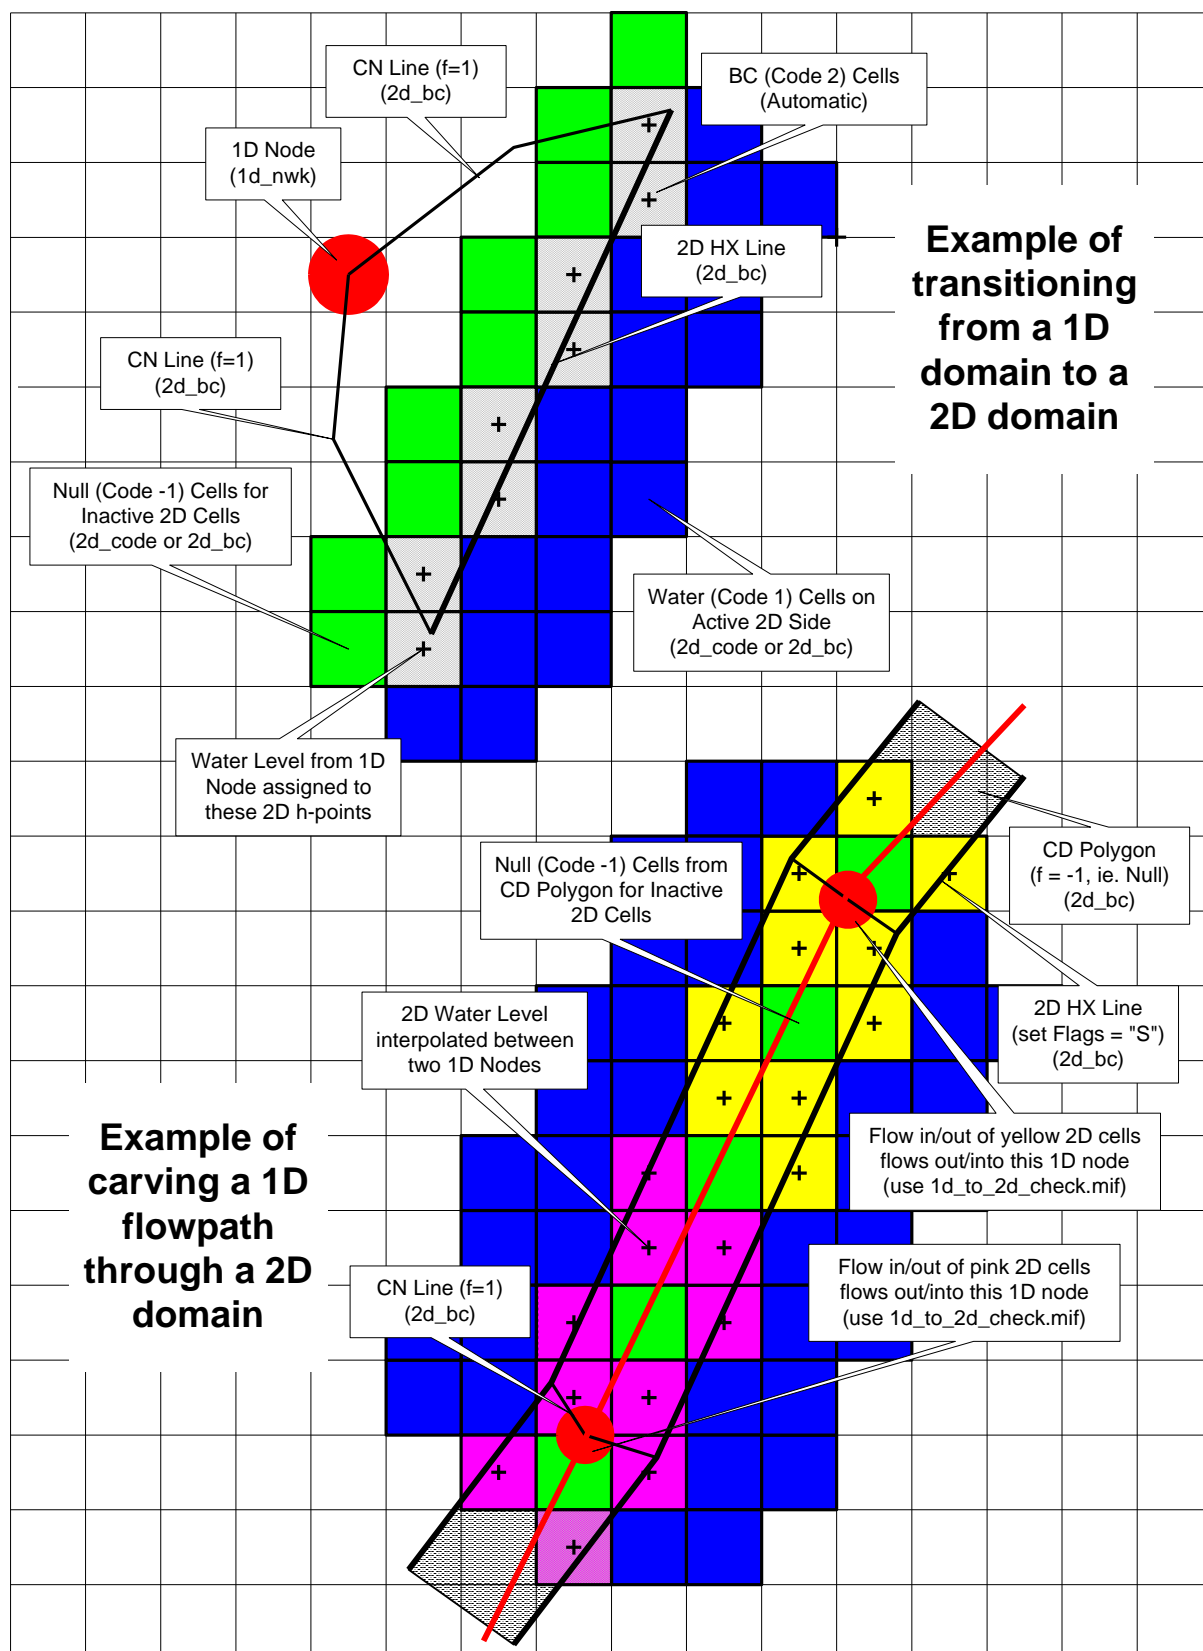

Figure 8-8 Examples of 2D HX Links to 1D Nodes
- 2D HX boundaries are preferred for transitioning between 1D domains and 2D domains, or when carving a 1D network through a 2D domain (see Figure 8-8). They can also be successfully used for connecting to 1D structures embedded into a 2D domain, especially where preservation of momentum from 2D to 1D to 2D is important (see Figure 6-9).